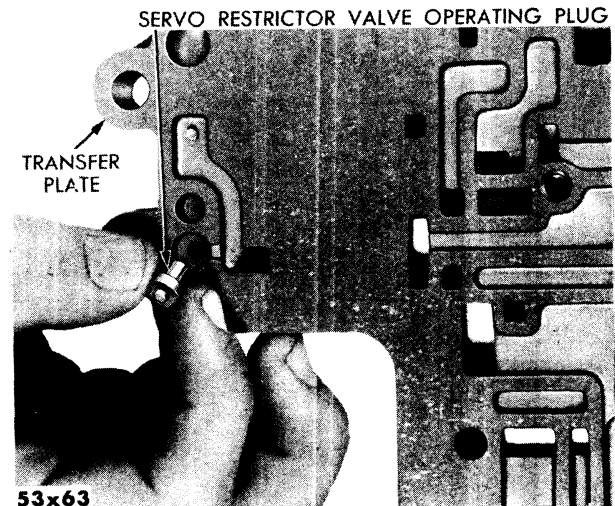

Fig. 129—Installation of Servo Restrictor Valve Operating Plug
- (21) Position the transfer plate cover on transfer plate and install the center screw (short) and lockwasher finger tight. Install the servo restrictor valve operating plug (long end first) into transfer plate, as shown in Figure 129.